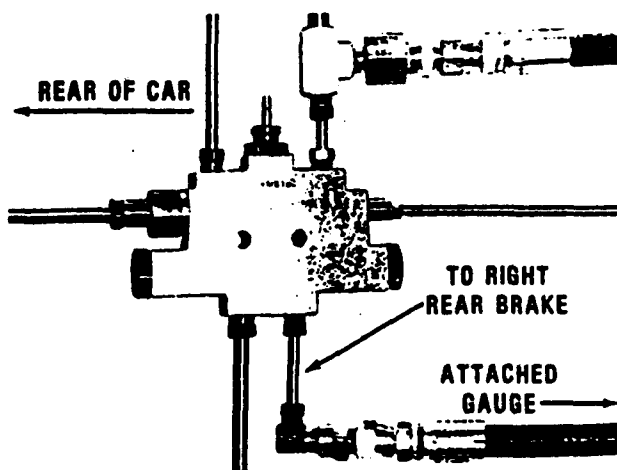

Fig. 18 — Gauge installation to right rear outlet hose.
4. Remove the right rear outlet hose from the valve, then install a second gauge to this port using spare brake tubing and 3/8th-inch tube nuts (Fig. 18).